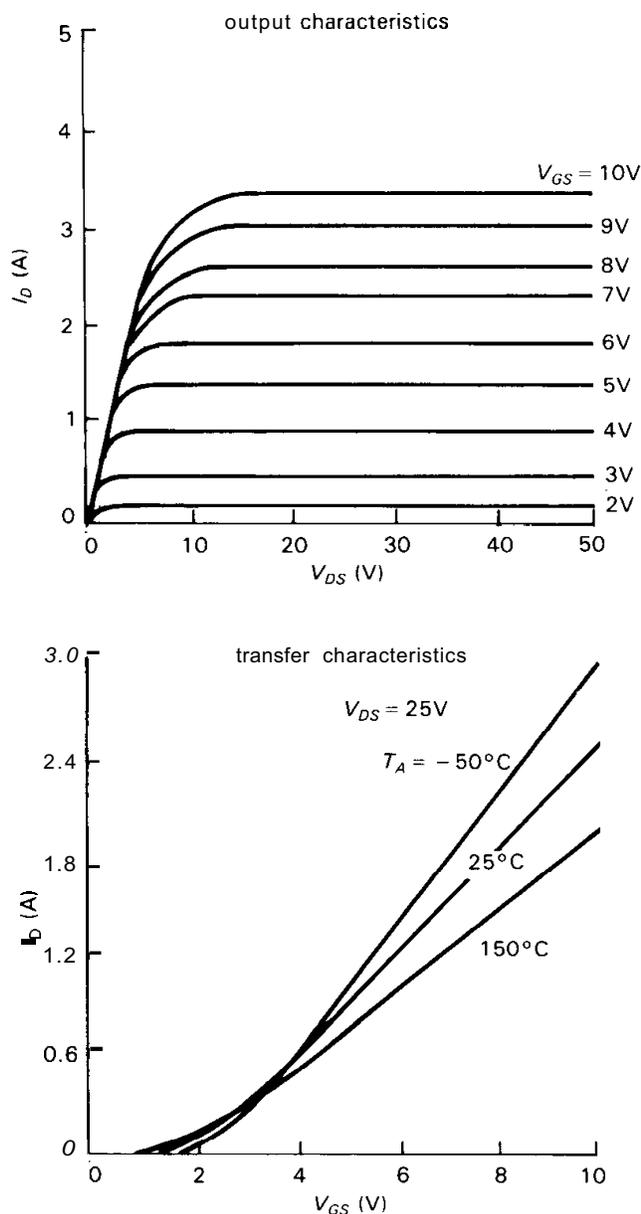

Figure 3.68. Drain characteristics of an n-channel low-threshold MOSFET (type TN0104).
1.5 volts (max)," which sounds fine until you read the fine print ("at  $I_D = 1\text{mA}$ "). It takes considerably more gate voltage than  $V_{GS(th)}$  to turn the MOSFET on fully (Fig. 3.68). However, the circuit will probably work OK, because (a) a HIGH TTL output is rarely less than +3 volts, and typically more like +3.5 volts, and (b) the TN01 further specifies " $R_{ON}(typ) = 5\Omega$  at  $V_{GS} = 3\text{V}$ ."